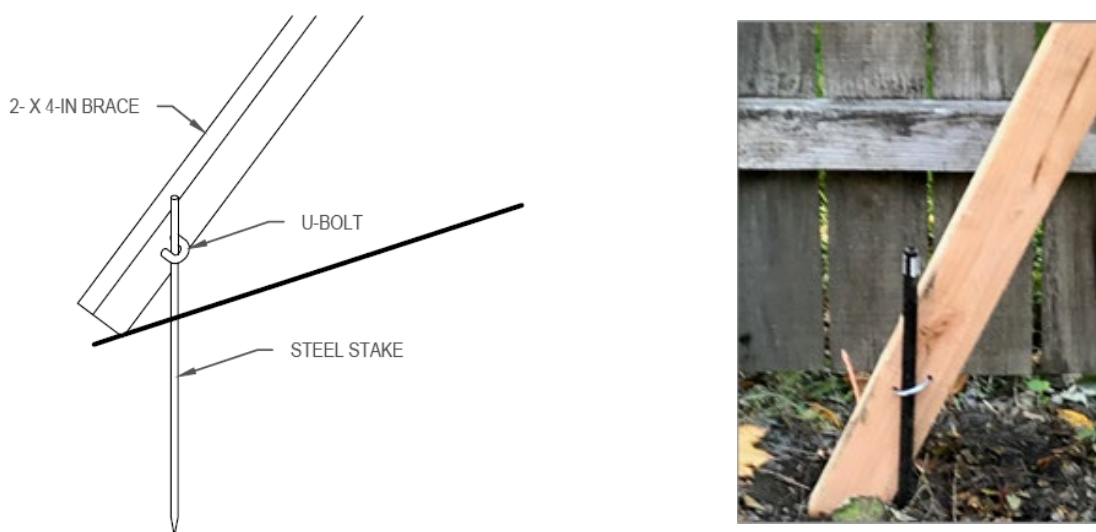

Figure 14. Required Steel Stake with Brace and U-Bolt (STD-D-6134)
- The stakes must be 0.75" round steel and be set at least 24" below ground level. Figure 14 above shows a steel stake, brace, and U bolt.
- The stakes must be 0.75" round steel and be set in the ground at least 24". Figure 14 above shows a steel stake, brace, and U bolt.